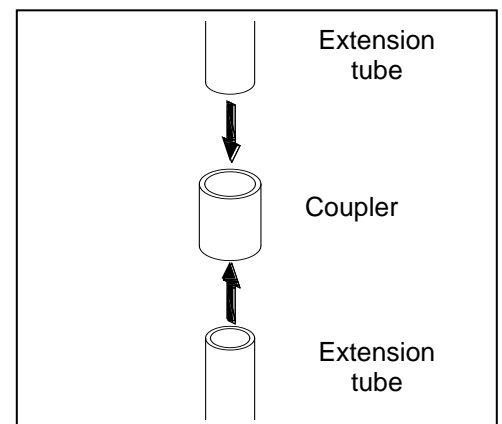

**Fig. 4**
4. When the pond is full, bury the excess liner in a small trench around your pond with stones and rocks, according to your landscape design. Fig. 4